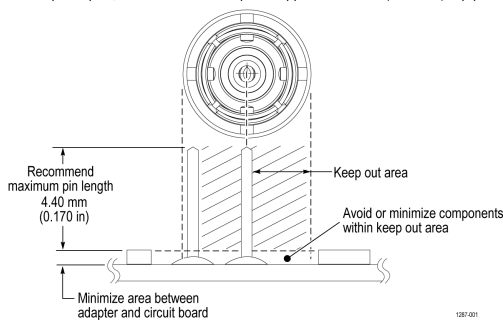

Figure 13: Adapter clearance requirements
The solder pins can be installed around a surface mounted component on the circuit board, but adequate clearance should be maintained for a good electrical connection for the adapter. Figure 13 on page 36
3. If necessary apply a small amount of adhesive to further strengthen the connection to the circuit board. However, keep the height of the adhesive to a minimum to provide good electrical contact for the adapter. Figure 13 on page 36